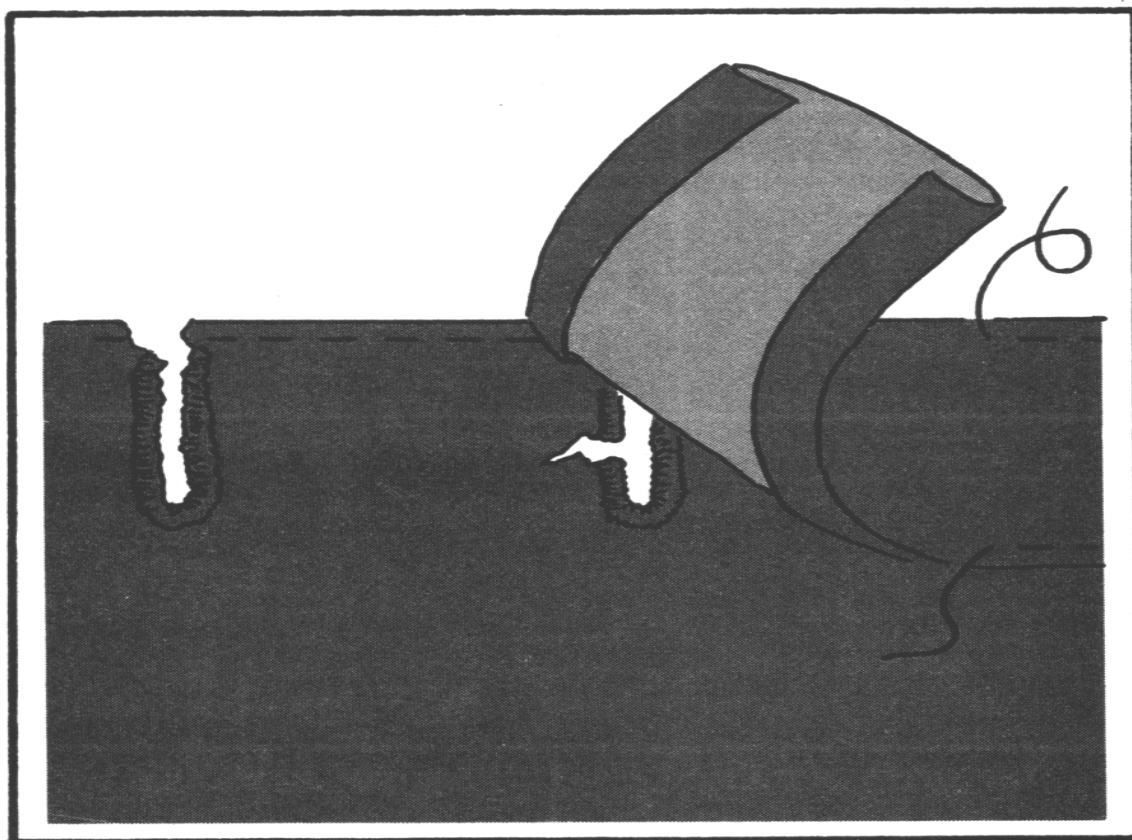

Figure 9-19. Backing method
b. Backing Method. To replace a buttonhole using the backing method (Figure 9-19)--
(1) Cut a strip of matching canvas wide enough to cover the damaged buttonhole and extend from the edge of the opening to 1 inch beyond the buttonhole. Allow 1/2 inch on each side for a turnunder. Make the strip long enough to cover all the damaged buttonholes and extend 1 1/2 inches above and below the buttonholes.
(2) Turn the strip of canvas faceup.
(3) Draw chalk lines 1/2 inch from the raw edges on all sides.
(4) Turn the raw edges under on the chalk lines, and crease the folded edges in place with the handle of a pair of shears.
(5) Turn the canvas item facedown.
(6) Cover the damaged buttonholes with the canvas strip.
(7) Stitch the strip to the canvas item by sewing a seam 1/8 inch from the folded edges on all sides.
(8) Rework the buttonholes. Make slits for the buttonholes in the same place as the previous buttonholes. Reinforce the edges by stitching around the slits using the buttonhole stitch. Stitch through all layers.